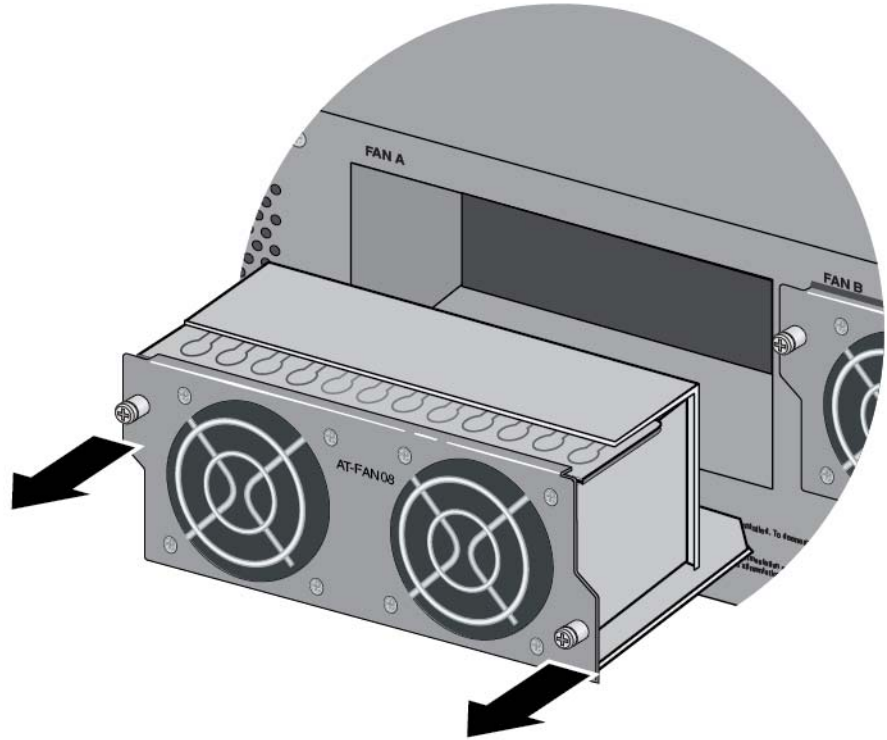

Figure 112. Disconnecting the AT-FAN08 Module from the Chassis
2. Carefully pull on the screws on the faceplate to disconnect the line card from the connector on the backplane in the chassis. Refer to Figure 112 on page 151.